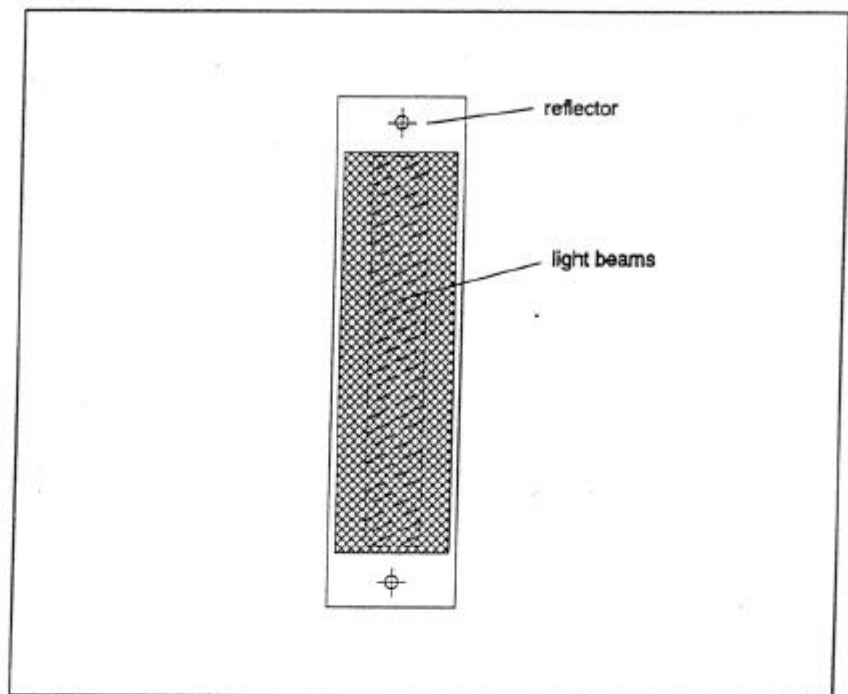

Figure 9-5 Symmetrical position of the light beams on the reflector.
6. Figure 9-5 shows the symmetrical position of the light beams on the reflector. The alignment is finished.